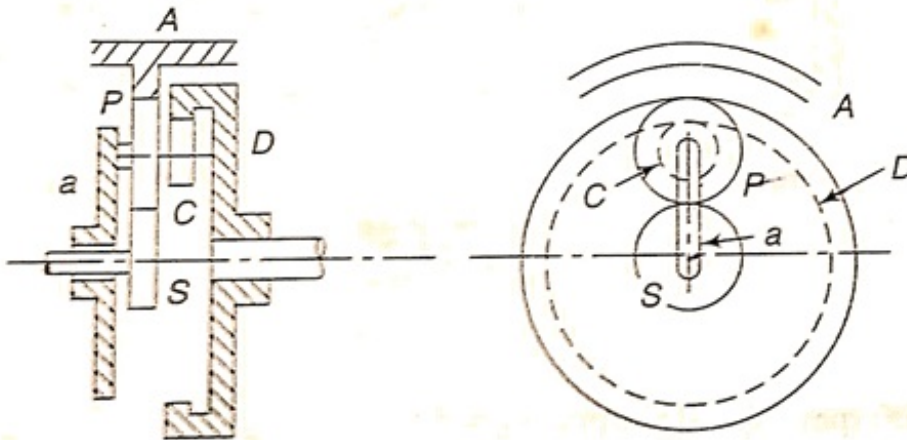

Fig Q1B. Epicyclic Gear Train
- 1) Derive an expression for the torque in single flat collar bearing, assuming uniform wear. (10)
- B) In a reduction gear shown in the Fig. Q1B, the input S has 24 teeth. P and C (10) constitute a compound planet having 30 and 18 teeth respectively. If all the gears are of the same pitch, find the ratio of the reduction gear. Assume A to be fixed